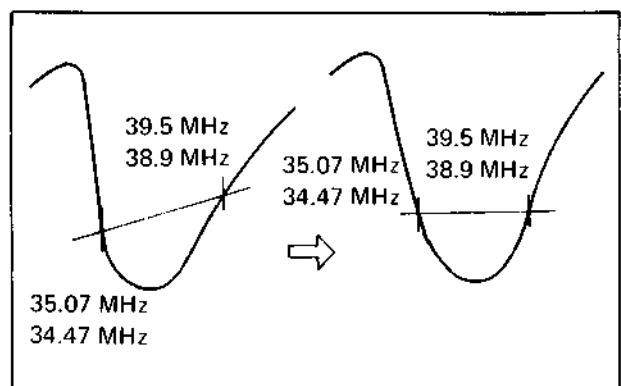

Fig. 5-43
9. Adjust the core of T104 so that the waveform has an equal height at the 35.07 MHz and 39.5 MHz (HR-3660EK), 34.47 MHz and 38.9 MHz (HR-3660EG) markers as shown in Fig. 5-43.